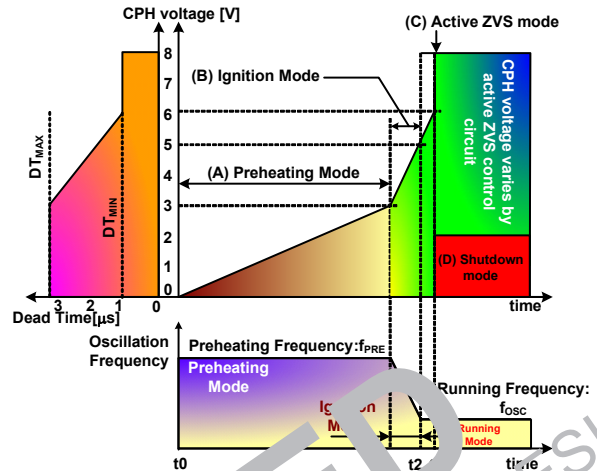

Figure 20. Operation Modes
FAN7711 has four operation modes: (A) preheating mode, (B) ignition mode, (C) active ZVS mode, and (D) shutdown mode, depicted in Figure 20. The modes are automatically selected by the voltage on CPH capacitor, shown in Figure 20. In modes (A) and (B), the CPH acts as a timer to determine the preheating and ignition times. After the preheating and ignition mode, the role of the CPH is changed to stabilize the active ZVS control circuit. In this mode, the dead time of the inverter is selected by the voltage of CPH. Only when FAN7711 is in active ZVS mode is it possible to shut off the whole system using CPH pin. Pulling the CPH pin below 2V in active ZVS mode, causes the FAN7711 to enter shutdown mode. In shutdown mode, all active operation is stopped, except UVLO and some bias circuitry. The shutdown mode is triggered by the external CPH control or the active ZVS circuit. The active ZVS circuit automatically detects lamp removal (open-lamp condition) and decreases CPH voltage below 2V to protect the inverter switches from damage.
When the CPH voltage exceeds 3V, the internal current source to charge CPH is increased about six times larger than I_{PH} , noted as I_{IG} , causing rapid increase in CPH voltage. The internal oscillator decreases the oscillation frequency from f_{PRE} to f_{OSC} as CPH voltage increases. As depicted in Figure 20, lowering the frequency increases the voltage across the lamp. Finally, the lamp ignites. Ignition mode is defined when CPH voltage lies between 3V and 5V. Once CPH voltage reaches 5V, the FAN7711 does not return to ignition mode, even if the CPH voltage is in that range, until the FAN7711 restarts from below $V_{DDTH(ST-)}$. Since the ignition mode continues when CPH is from 3V to 5V, the ignition time is given by: